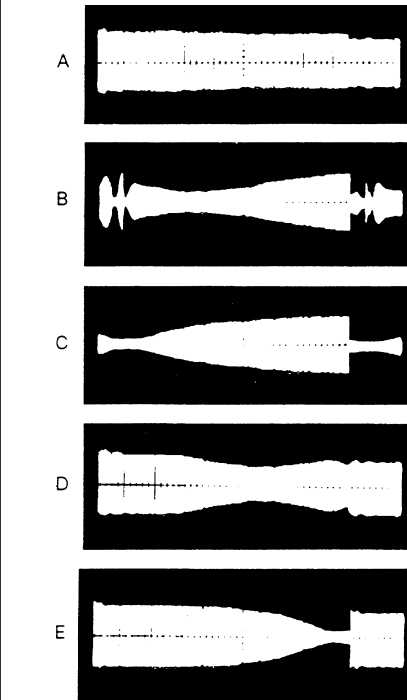

Fig. 3-3-1
3-3-1 Guide Roller Adjustment (Refer to Fig. 3-3-1.)
- Check if the FM waveform is flat like A shown in Fig. 3-3-1.
3-3-2 Adjustment of Supply Guide Roller Height (Refer to Fig. 3-3-1, 3-3-2.)
3-3-3 Adjustment of Takeup Guide Roller Height (Refer to Fig. 3-3-1, 3-3-2.)